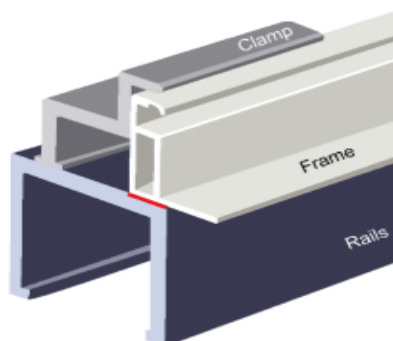

Figure 8: —The frame must overlap the rails completely or the overlapping distance must $\geq 20\text{mm}$
- For installation where mounting rails run parallel to the frame, the frame must overlap the rails completely or the overlapping distance must $\geq 20\text{mm}$. As shown in Figure 8.